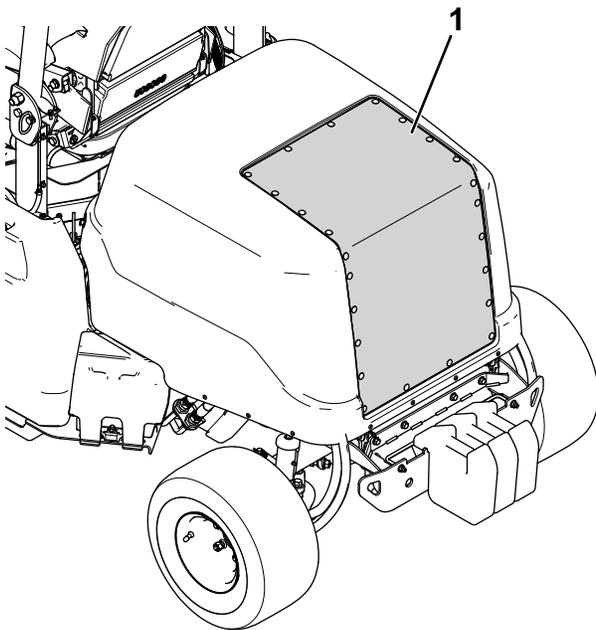

Figure 74
- Use compressed air to clean the hood screen (shown in Figure 74). Direct the air out from the machine.